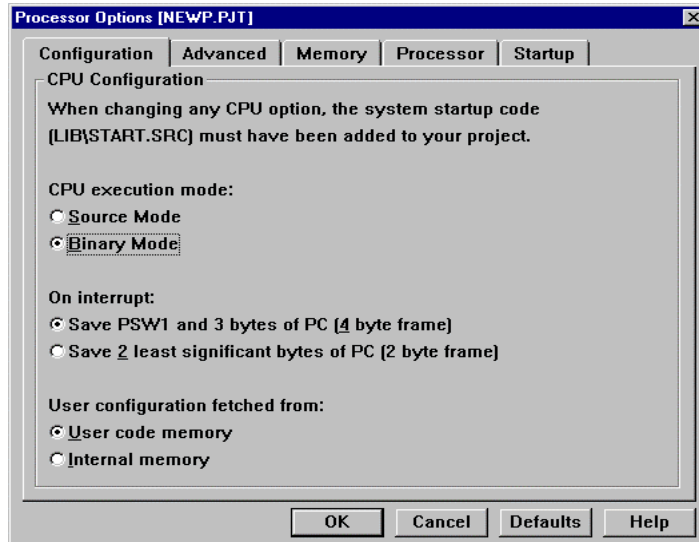

Figure 9 Processor Options - I
- Configure the options in the tabs as shown in Figure 9 and 10 and press OK. Check if the DIPswitch MODE0 of your 8x930 Family Evaluation Board reflects your choice of the Processor options: source or binary mode. Please note that the factory